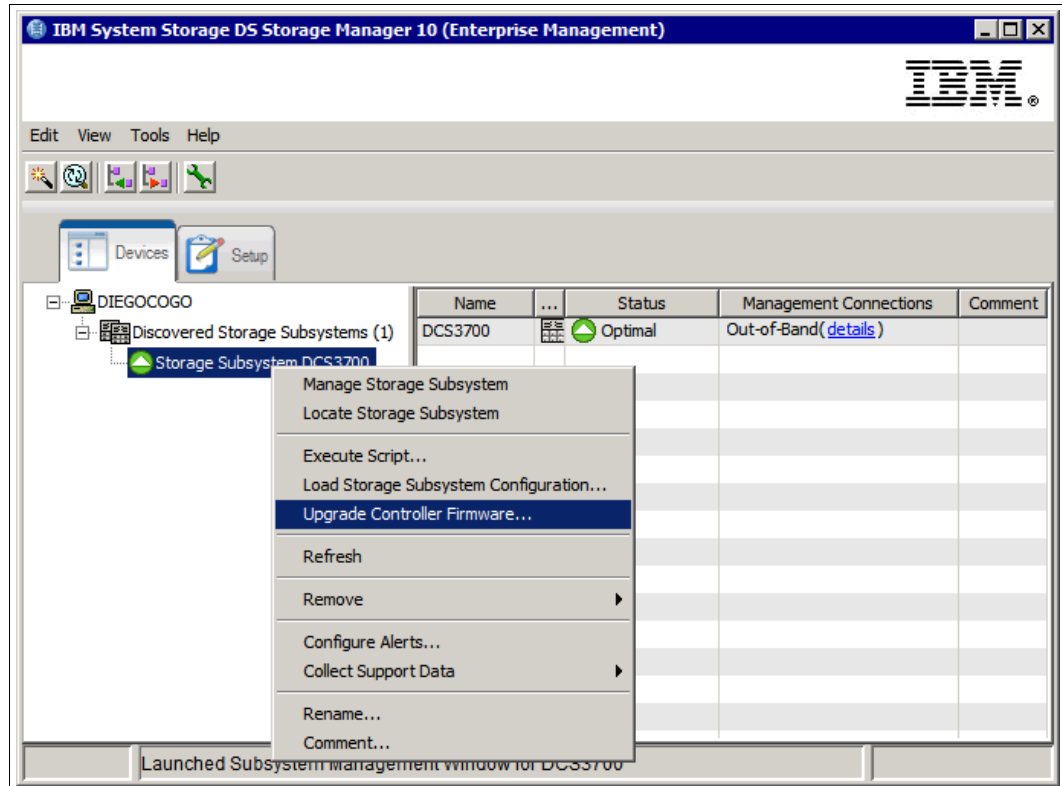

Figure 14-7 Upgrade Controller Firmware option in the Enterprise Management window
1. From the DS Storage Manager Enterprise Management window, right-click a selected DCS3700 storage subsystem and select **Upgrade Controller Firmware**, as shown in Figure 14-7.